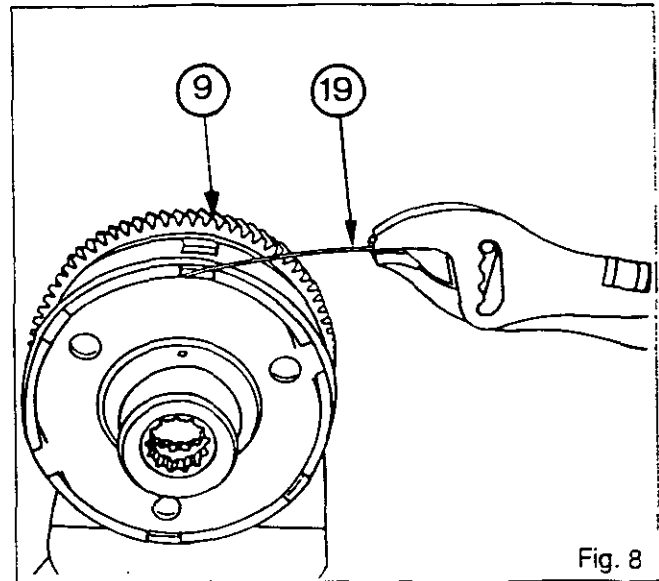
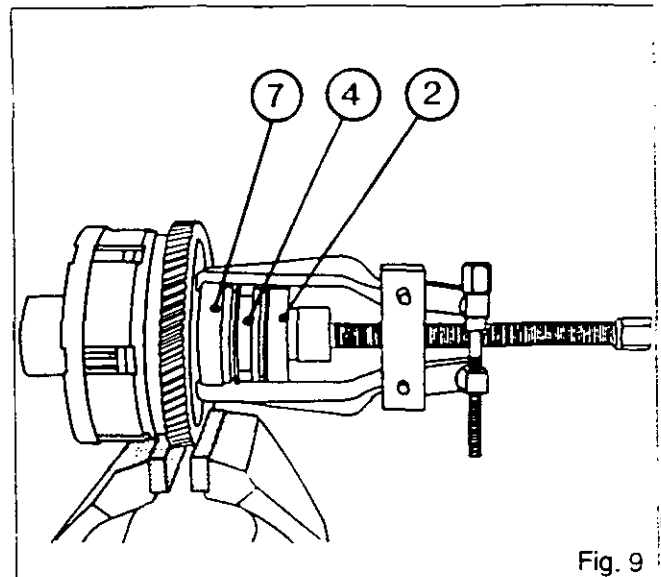

Fig. 8
Fig. 9
23. Place the clutch housing (9) in a vice (Fig. 8).
24. Remove the retaining ring (19) (Fig. 8) with vice grips.
25. Remove the cover (20) with the circlip (18), the outer plates (15) and the inner plates (16) (page 4).
26. Remove the O-rings (3) and (6).
27. Remove the circlip (1).
28. Extract the ball bearings (2) and (7) with the sleeve (4) (Fig. 9). Remove the sealing rings (5).